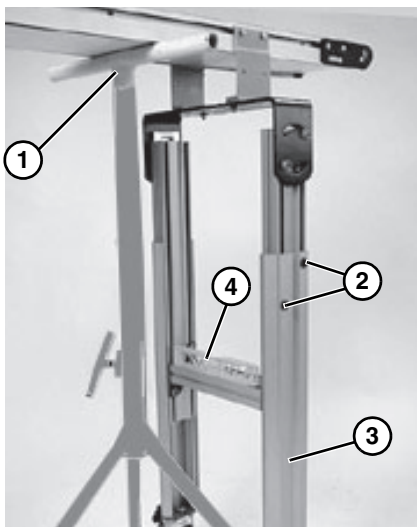

Figure 22
1. Using a support (Figure 22, item 1), raise conveyor and stand off the floor.
2. Loosen button screws (Figure 22, item 2).
3. Raise or lower stand leg (Figure 22, item 3) to the required height. Level stand from side to side using a level (Figure 22, item 4).
Failure to secure screws (Figure 22, item 2) may cause conveyor sections to drop down causing severe injury. TIGHTEN SCREWS (Figure 22, item 2) AFTER ADJUSTMENT.
4. Tighten button screws (Figure 22, item 2) to 150 in-lb (17 N-m).
1. Loosen button screws (Figure 22, item 2).
<p>Failure to secure screws (Figure 22, item 2) may cause conveyor sections to drop down causing severe injury.  TIGHTEN SCREWS (Figure 22, item 2) AFTER ADJUSTMENT.</p>
3. Tighten button screws (Figure 22, item 2) to 150 in-lb (17 N-m).